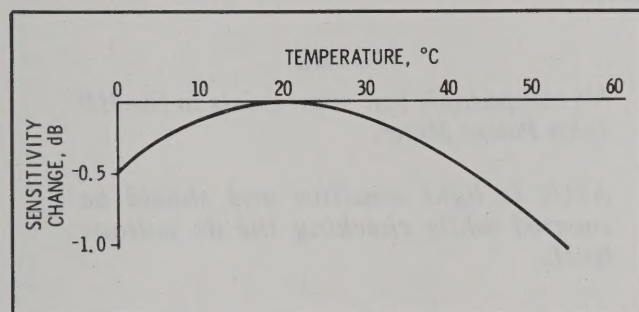

Figure 2. Typical Influence of Temperature on Sensitivity
32. The sensitivity of the diode detector in the power sensor is influenced by ambient temperature. This change has been compensated for, but at temperature extremes, the sensor should be recalibrated to obtain the most accurate results. Typical temperature sensitivity variations are shown in Figure 2.